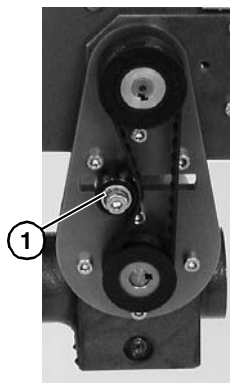

Figure 25
2. Loosen tensioner (**Figure 25, item 1**).